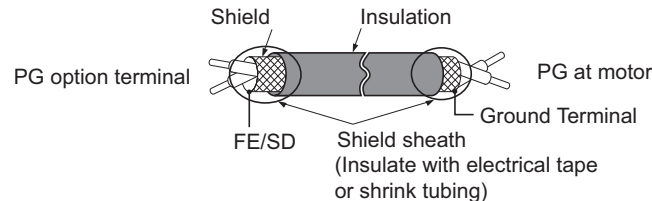
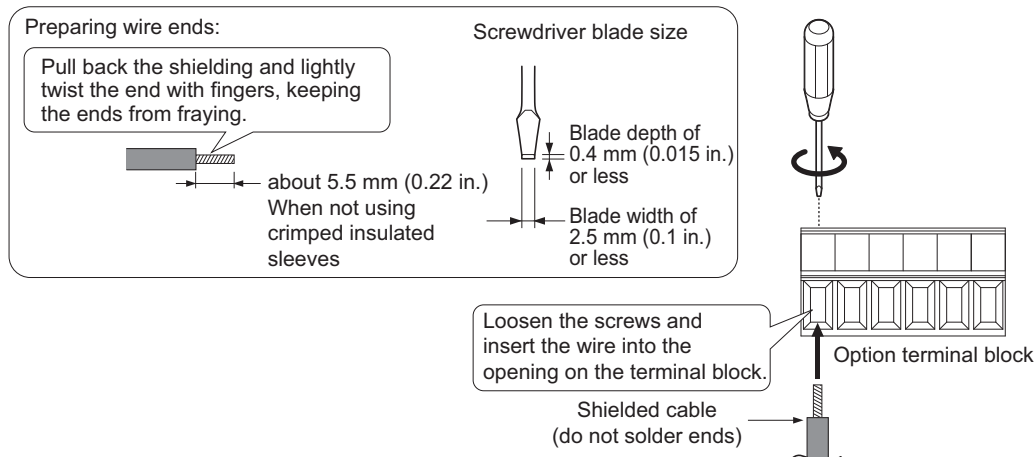

Figure 8.6 Preparing Ends of Shielded Cable
Figure 8.7 Preparing and Connecting Cable Wiring
- There are two screw holes on the drive for use as ground terminals (I). When connecting three options, two ground wires will need to share the same drive ground terminal.
- Prepare and connect the wire ends as shown in Figure 8.6 and Figure 8.7. **Wire Gauges and Tightening Torques on page 371** to confirm that the proper tightening torque is applied to each terminal. Take particular precaution to ensure that each wire is properly connected and wire insulation is not accidentally pinched into electrical terminals.